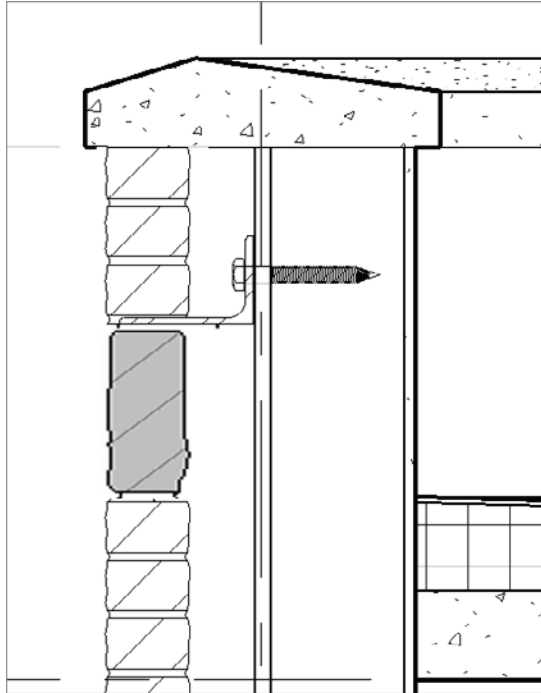

FIGURE 12.39 Inserting the lag bolt
4. Insert the lag bolt into the angle, as shown in Figure 12.39.